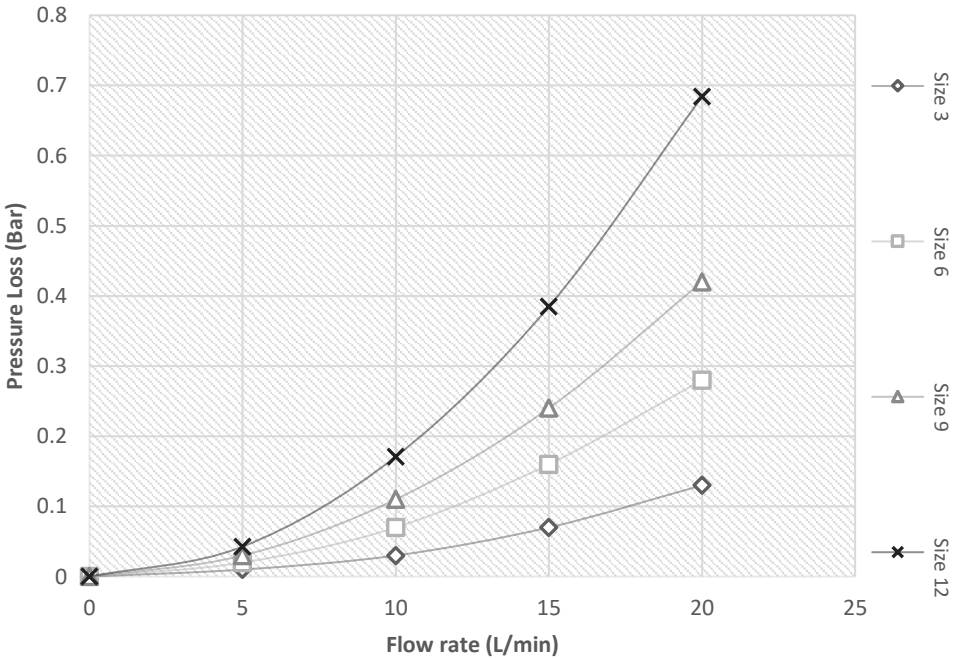
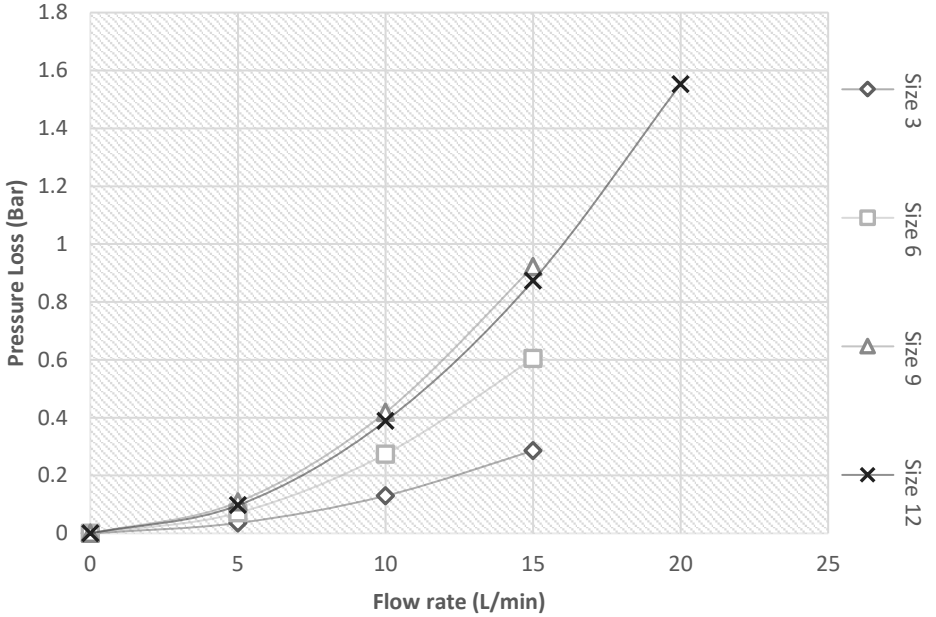
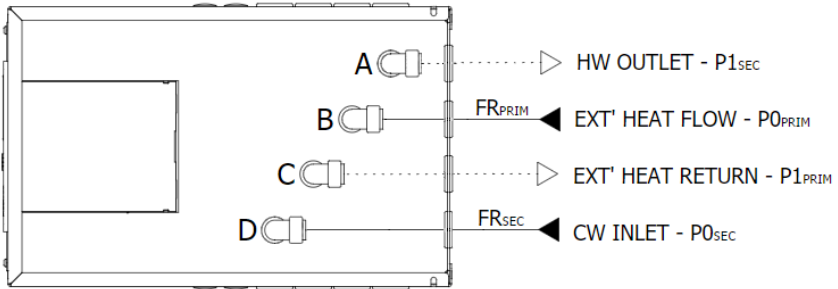

Figure 6.1: UniQ HW +i Heat Battery Secondary circuit pressure loss characteristics graph
Figure 6.2: UniQ HW +i Heat Battery Primary circuit pressure loss characteristics graph
Figure 6.3: Pressure loss at inlet & outlet of the heat battery
The primary circuit of the heat battery is connected to the External heating source flow and return as shown schematically in (Figure 6.3). The pressure loss values can be read in (Figure 6.2).
The secondary circuit of the heat battery is connected to dwelling hot water circuit as shown schematically in (Figure 6.3). The pressure loss values can be read in (Figure 6.1).
**Note:** The mains cold water inlet connects to port D; Hot water outlet connects to port A. Meanwhile the external heat source flow pipe connects to Port B and the external heat source return pipe connects to Port C (Figure 6.3).
External heating source Flow should be connected to Heat Battery connection 'B' and External heating source Return should be connected to Heat Battery connection 'C'. (see Figures 6.3, 11.1 and 12.1).